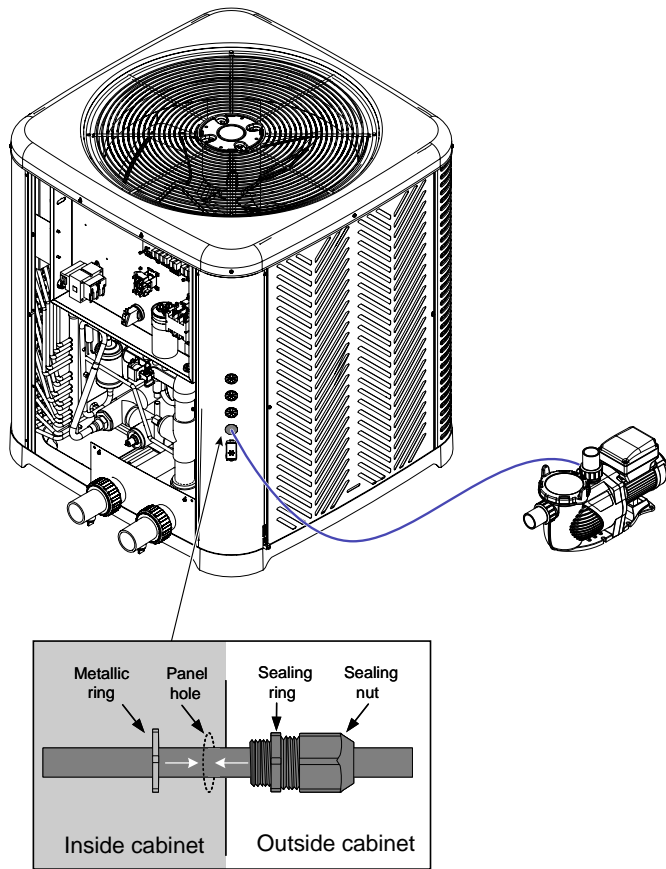

Figure 129. Wiring External Devices Using Liquid Tight Connectors
6. In the case you decide to remove the grommets to connect external devices to the heater, run wires using metallic conduit or outdoor-resistant cables. Then, connect the conduit or cables to the knockout using liquid tight connectors to prevent water or dust from entering the system. See Figure 129.